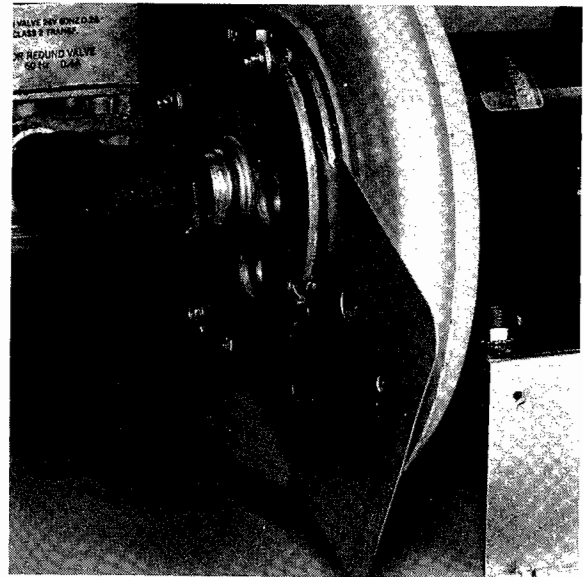

FIGURE 36
3. Pull gas/air orifice plate out. (Fig. 36)